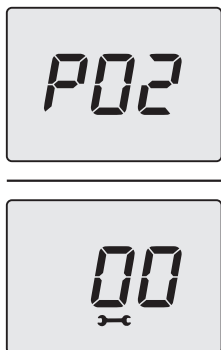

Fig. 9.5
- Press the 14 key for 1 second (Fig. 9.1) to enter the selected parameter. The display will show the following (Fig. 9.5).